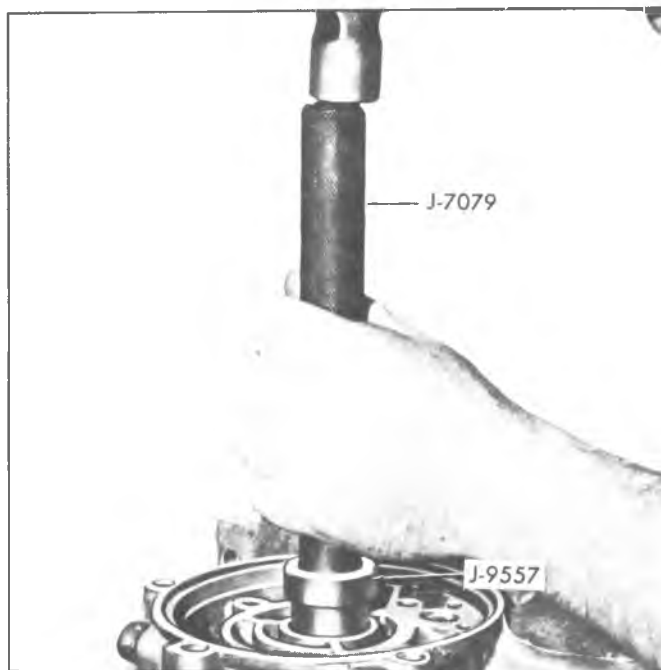

Fig. 28PG--Installing Case Rear Bushing
2. To install new bushing, drive or press bushing into place from rear of case using Tool J-9557 and Handle J-7079 (fig. 28PG).